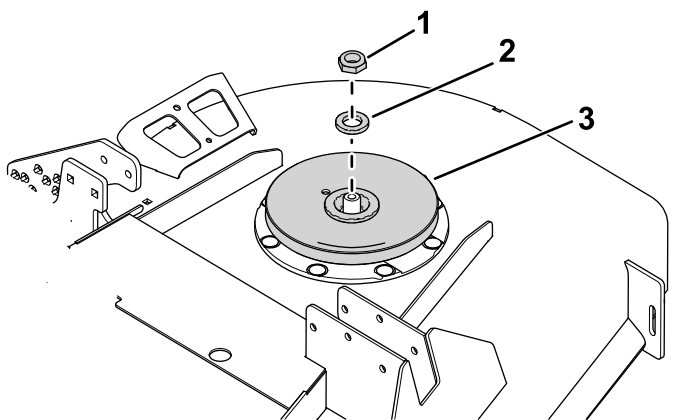

Figure 5
1. Remove the nut and washer that secures the existing blade pulley to the spindle shaft (Figure 5).
2. Remove the pulley (Figure 5).
3. Use the nut and washer to secure the new pulley to the spindle shaft (Figure 5).